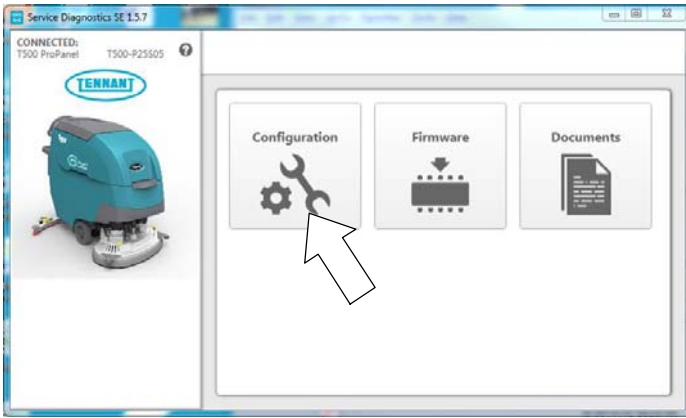

Fig. 41
- From the Home screen, select the “Configuration” button (Figure 41).
- If firmware updates are required, the “Firmware” button on the home screen will be highlighted in yellow as shown (Figure 41). Press the button to update the machine’s firmware.